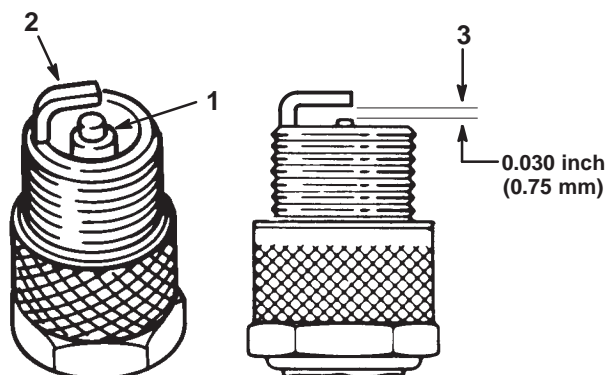

Figure 31
1. Look at the center of the spark plugs (Fig. 31). If you see light brown or gray on the insulator, the engine is operating properly. A black coating on the insulator usually means that the air cleaner is dirty.
2. Check the gap between the center and side electrodes (Fig. 31). Bend the side electrode (Fig. 31) if the gap is not correct.